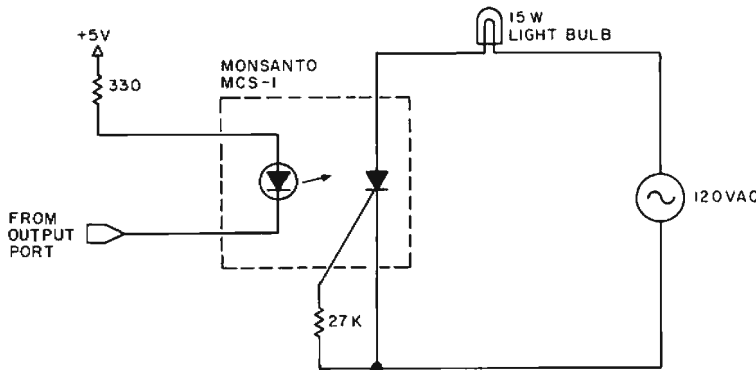
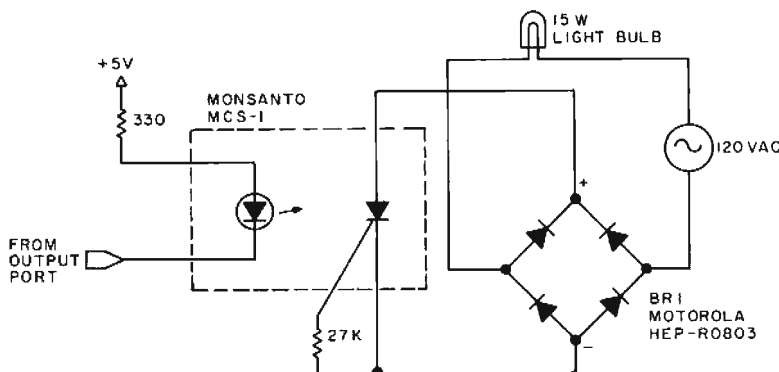

Figure 1: Simple half wave control of AC operated devices using an SCR (silicon controlled rectifier) optocoupler.
Figure 2: Full wave control of AC operated devices using an SCR optocoupler.
Figure 1 shows one such real world application, an SCR (silicon controlled rectifier) optocoupler used to control a 117 VAC line operated device with microcomputer output logic voltages. This circuit will certainly work, but the light bulb load will light only to half brilliance because the SCR conducts only on the positive half cycle of the AC line voltage. One way of getting around this is to modify the circuit, as shown in figure 2, by using a diode bridge in conjunction with the SCR photocoupler. This is an old trick developed to allow SCRs to be used for full-wave control. It came into use before the introduction of the Triac.
We next consider the DC side of things. Where is DC used for these types of applications? The automobile is one answer. The auto industry hopes to use microprocessors, but must operate them from +12 VDC for reasons of practicality. The SCR optocoupler in figure 1 can not be used for DC control, unless one wishes the DC being controlled to latch "on." That is, once the controlling diode turns the photo SCR "on" (with a DC supply of the proper polarity), the SCR will stay on no matter what the control current does. In order to control DC, it is a better plan to use a more conventional optocoupler, ie: one that has a phototransistor as the output device. Such optocouplers are widely available from most of the semiconductor producers. Among the producers of optocouplers are Fairchild, Hewlett-Packard, Litronix, Monsanto, Motorola, and Texas Instruments.
If you are unfamiliar with the IBM floppy disk format it is composed of 77 tracks numbered 0 through 76. Each track is divided into 26 sectors numbered 1 thru 26. Each sector consists of four fields as shown in figure 1.
Power requirements for the disk and controller are shown in table 1. A commercial power supply can be purchased or you can build your own supply. Figure 2 is a schematic of a power supply which supplies the needed voltages, offers voltage adjustment on the +24 and +5 supplies and has both adjustable current limiting and over-voltage protection on the 5 V supply.
*Table 1: Disk interface DC power requirements. The power supply of figure 2 was designed and built to meet these requirements; for those desiring to omit this detail, Sykes makes available a power supply module for the controller and drive.*
*Figure 1: Sector layout. The sector layout is fixed by the design of the controller. Each sector has 128 bytes of data, and an identification number which contains track and sector information in the "soft" format for floppies.*
Figure 2: Power supply for disk system. This power supply uses the 723 voltage regulator IC to actively regulate a 24 V 2 A supply for the disk motor(s), and electronics supplies of -12 V at 0.35 A and 5 V at 4 A.